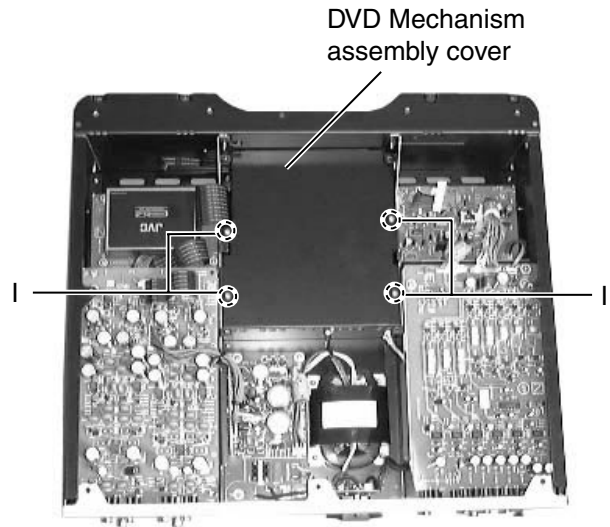

Fig.9
■ Removing the DVD mechanism assembly (See Fig.9~11)